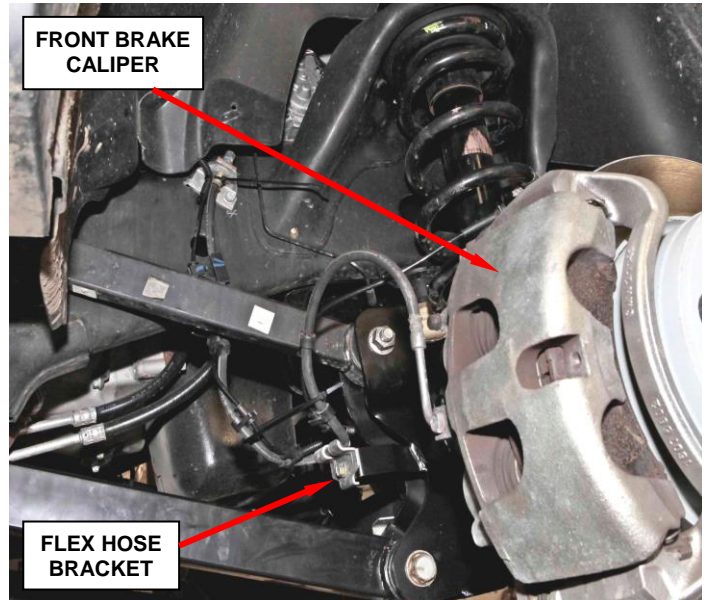

Figure 26 – Brake Caliper Flex Hose Bracket
7. Remove and save the right and left side brake caliper flex hose bracket from the axle bracket (Figure 26).